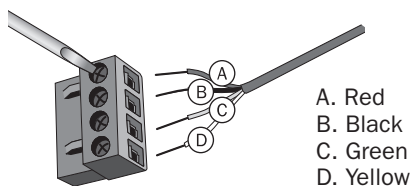

figure 12
3. Connect wires to the module connector. Insert each of the 4 color wires in the corresponding color-coded inlet on the connector. To do so, loosen the screw on the side of each inlet, insert the wire, and tighten screw to ensure a tight connection. Repeat for each of the remaining 3 wires (**figure 12**).